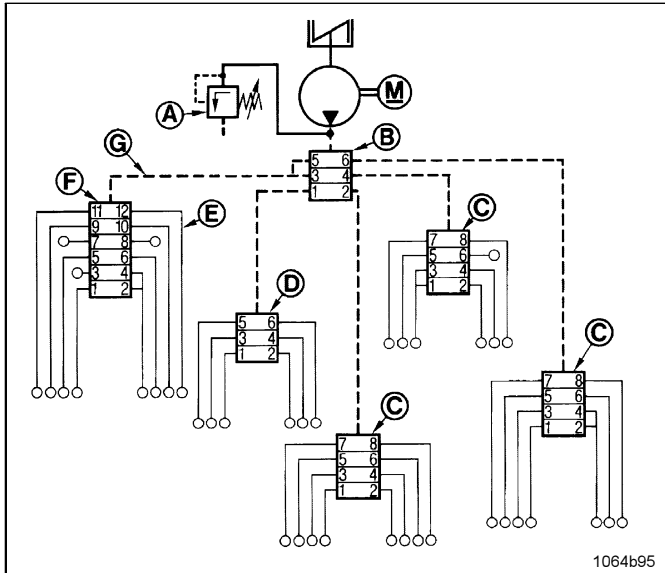

Fig. 22 Example of a lubrication system
- The main metering device B (fig. 22) and the secondary metering devices are connected by a high-pressure hose G. This feature automatically causes the linkage of the progressive system connected downstream of the pump.